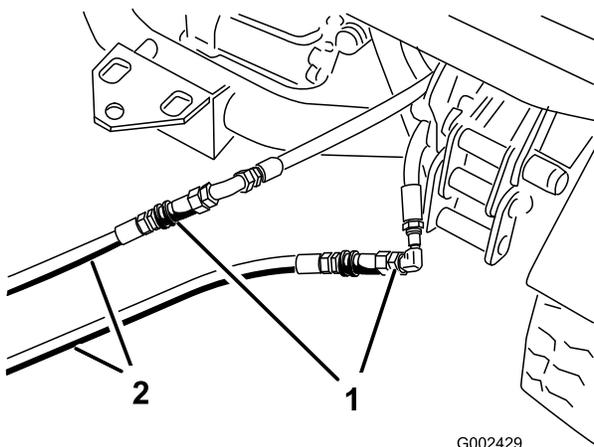

Figure 67
3. On the disabled machine, connect the two jumper hoses to the hoses that were disconnected (Figure 67).